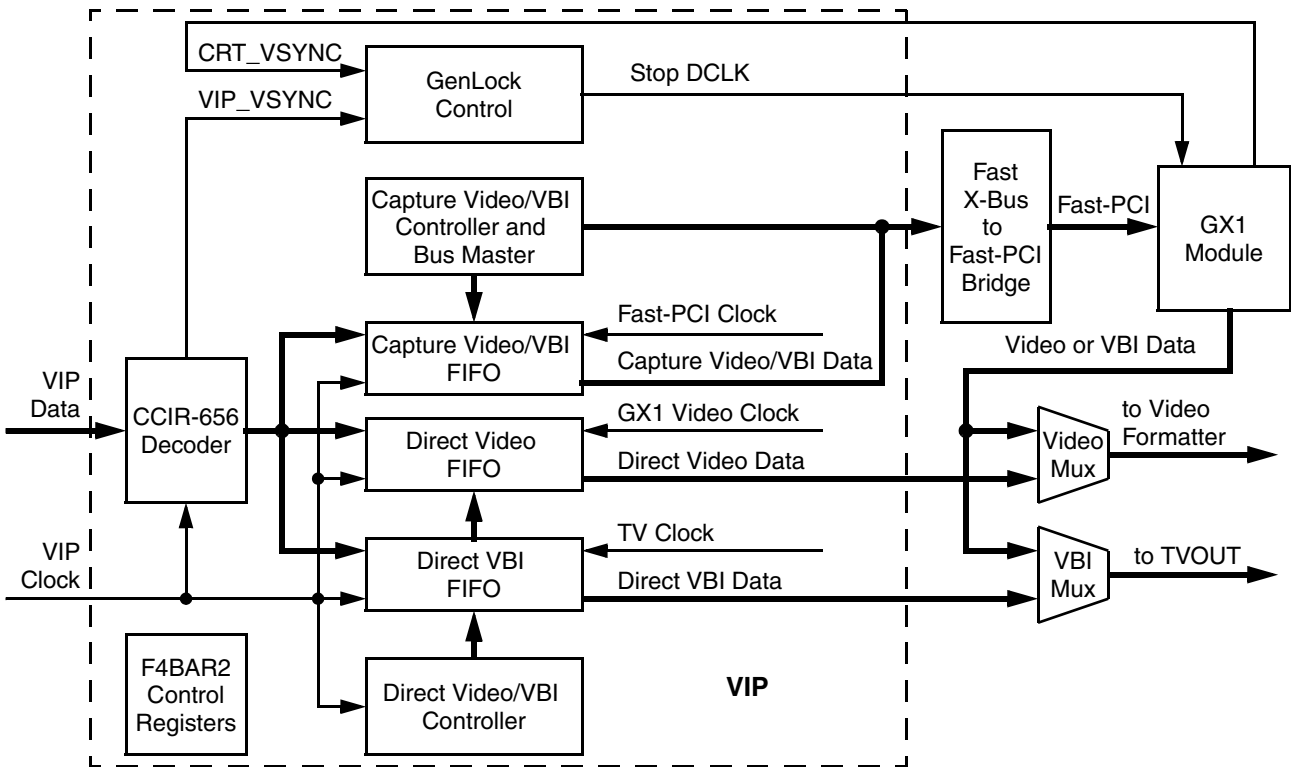

Figure 7-4. VIP Block Diagram
The VIP block is designed to interface the SC1200/SC1201 processor with external video processors (e.g., Philips PNx1300 or Sigma Designs EM8400) or external TV decoders (e.g., Philips SAA7114). It inputs CCIR-656 Video and raw VBI data sourced by those devices, decodes the data, and delivers the data directly to the Video Formatter (Direct Video/VBI modes) or to the GX1 module's Video Frame Buffer (Capture Video/VBI modes). Figure 7-4 shows a diagram of the VIP block.
2) The altered VBI data can be sent to the TVOUT block of the Video Processor via the video frame buffer or graphics frame buffer. See VIP block diagram (Figure 7-4 on page 315). The Closed Captioning data could be altered and then sent out this way. One reason to capture the Closed Captioning data would be to do a language conversion. If the VIP block is in Capture Video mode then this option is not possible because the video frame buffer can be used for sending video or VBI, but not simultaneously.